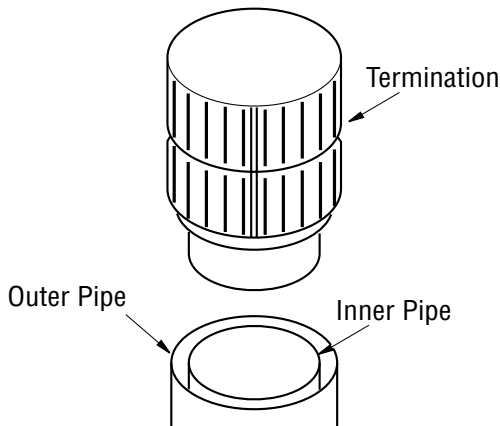
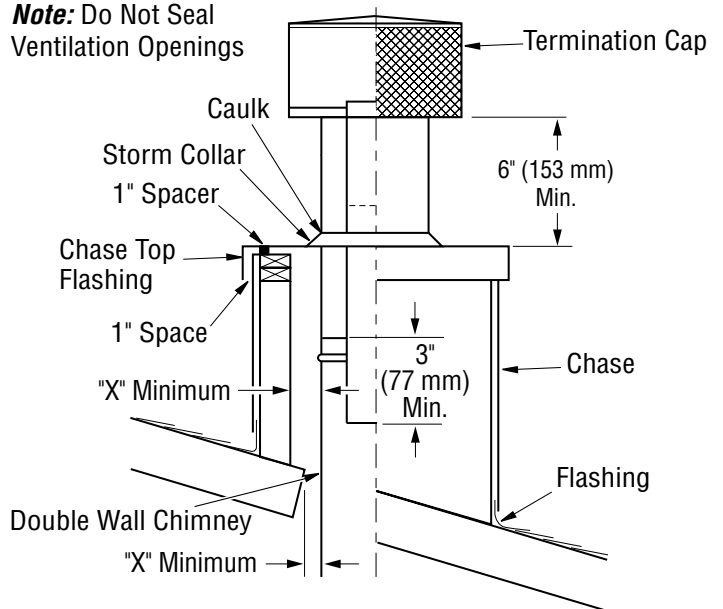

Figure 28 - Installing Termination Cap
Figure 29 - Chase Installation
5. Place termination cap over opening. Slip stainless steel inner pipe of termination into inner stainless steel chimney section (see Figure 28). Place galvanized steel over chimney outlet (see Figure 29).
6. Attach storm collar where chimney pierces opening in flashing. Caulk where storm collar touches outer chimney pipe (see Figure 29).